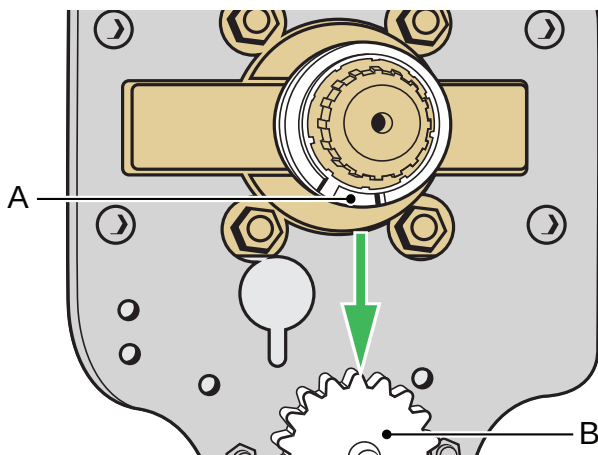

Figure 130
15. Position the stop ring on the mixer splines, push firmly, with the cut out (A) pointing down towards the medium gear wheel (B). Make sure the stop ring is on there firmly. See Figure 130.